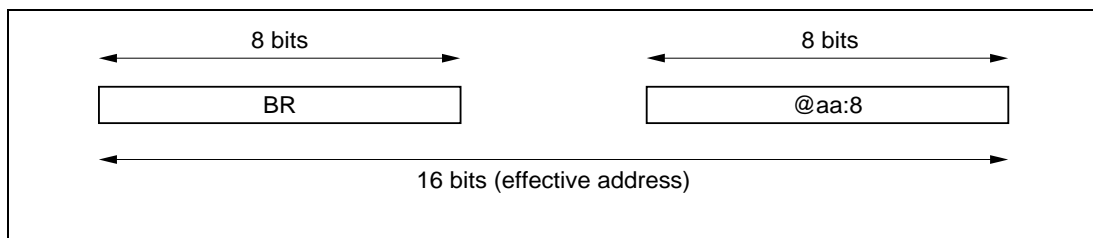

Figure 2-8 Short Absolute Addressing Mode and Base Register
The eight-bit base register (BR) stores the base address used in short absolute addressing mode (representing the upper eight bits of an address in page 0). Figure 2-8 illustrates the base register and short absolute addressing mode. In this addressing mode a 16-bit effective address is generated by using the BR contents as the upper eight bits and an address given in the instruction code as the lower eight bits. The short absolute addressing mode always addresses page 0.